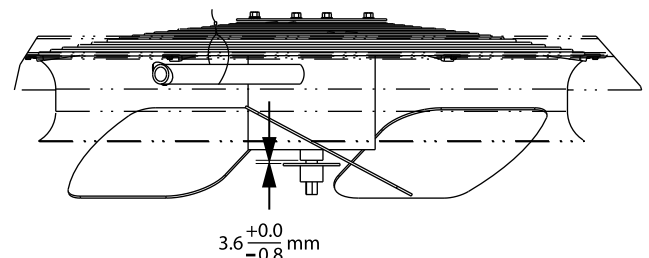

Fig. 32 — Condenser Fan Adjustment
4. Adjust the fan height as shown in Fig. 32.